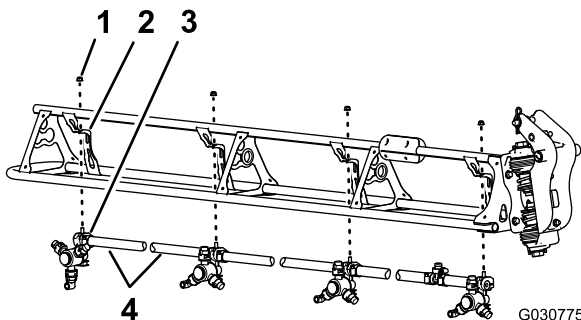

Figure 120
1. Cut the hose between 2 sprayer nozzles (Figure 120).
2. Remove the flange locknut (5/16 inch) that secures the sprayer nozzle to the nozzle support (Figure 120).